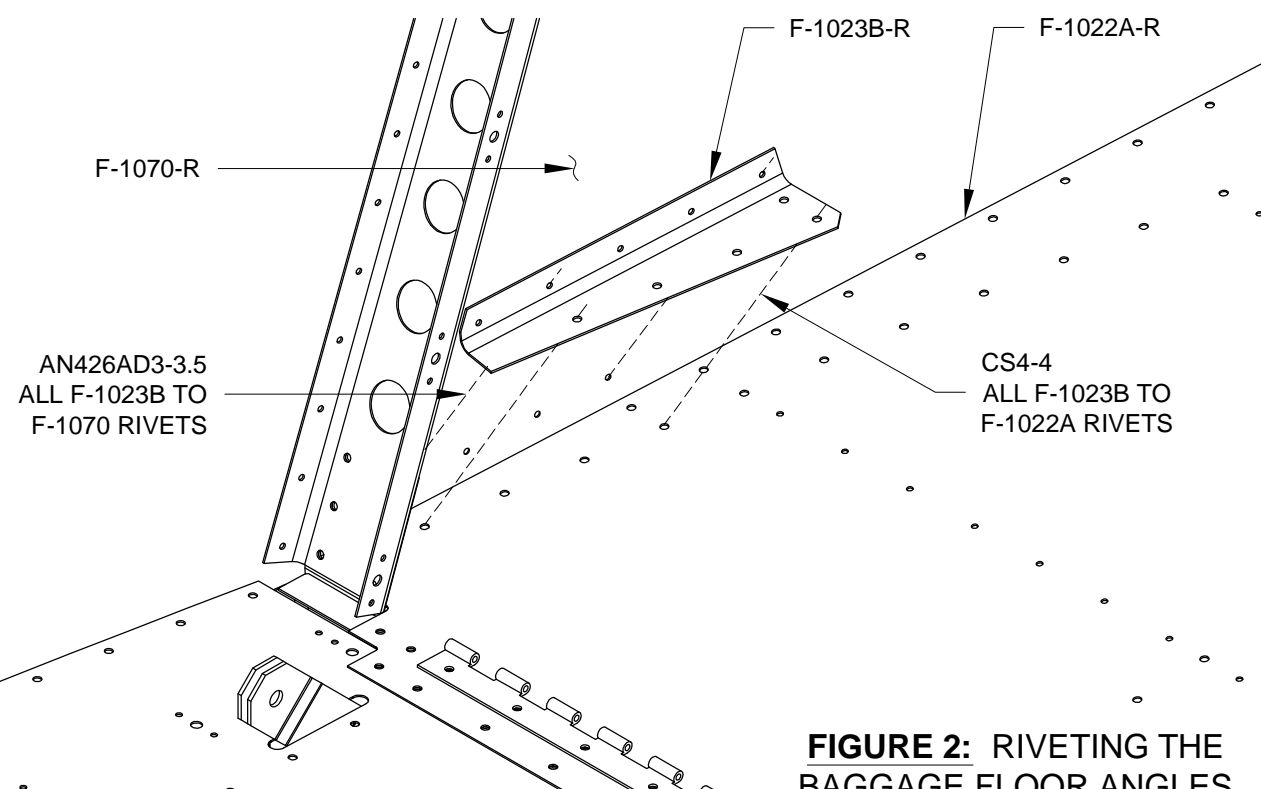

FIGURE 2: RIVETING THE BAGGAGE FLOOR ANGLES
Step 2: Rivet the two F-1023B Baggage Floor Angles to the F-1022A Baggage Floors and F-1070 Mid Side Skins using the rivets called-out in Figure 2.